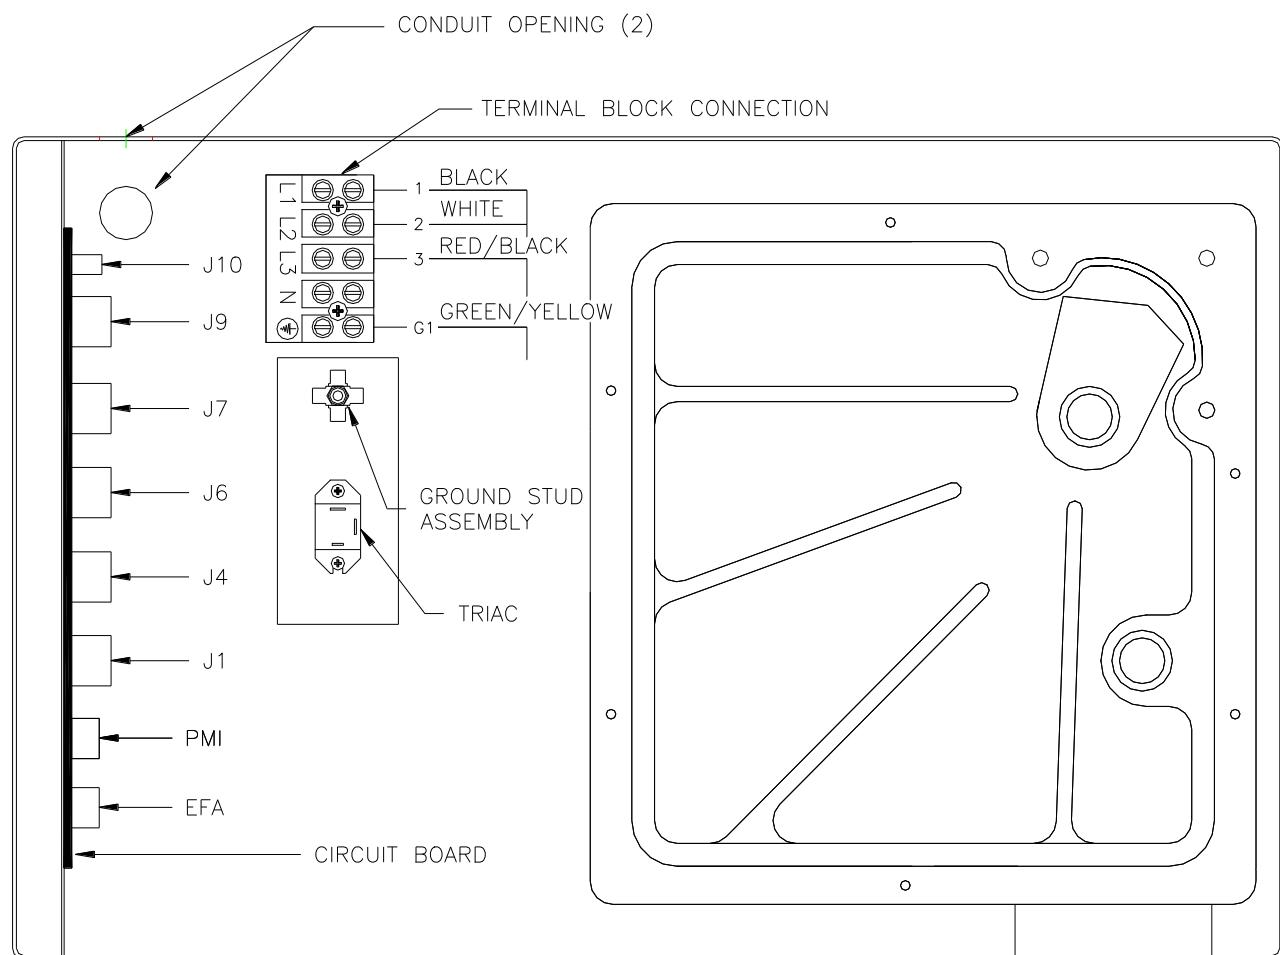

FIGURE 6
SEE "FIGURE 6" FOR REMOVAL OF THE ACCUSCAN™ CONTROL PANEL ASSEMBLY
3. SEE "FIGURE 6" FOR REMOVAL OF THE ACCUSCAN™ CONTROL PANEL ASSEMBLY